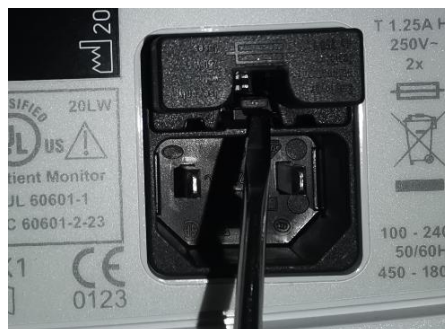

Figure 13 Replacement, Main Fuses
2. Remove the fuse holder from the AC Power Connector by disengaging the tab and pulling out the fuse drawer according to *Figure 13 Replacement, Main Fuses*.